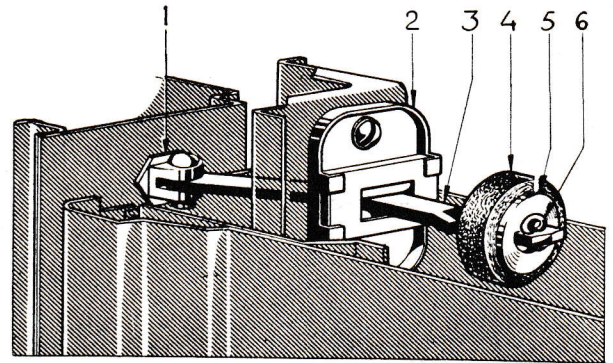

Fig. 18. Door check.
3. Remove the cotter pin (6), the washer (5) and the rubber buffer (4) on the door check as shown in Fig. 18.
3. Loosen the nut on the door check fork bolt (1, Fig. 18) and remove it together with the link (3).
4. Replace the ratchet (2) if necessary. It is attached by means of screws.